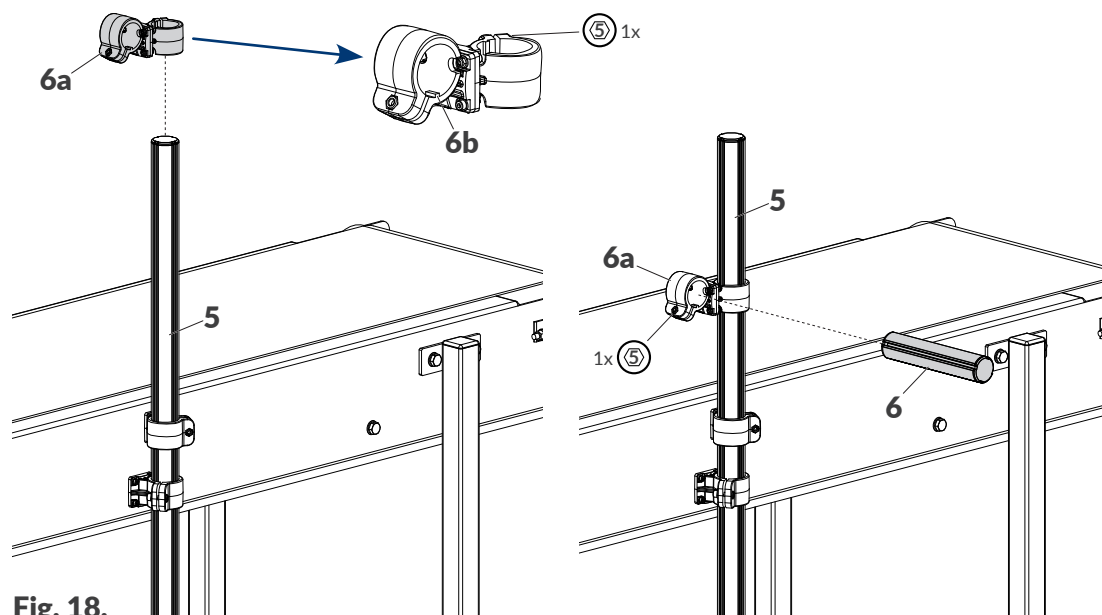

Fig. 18.
4. Fasten articulated holder **6a** to printer support beam **5** (see **Fig. 18**). Use the #5 angle hex key to tighten the screw in holder **6a**, clamping the holder to printer support beam **5**.
While installing the printer make sure that holder fins **6b** (see **Fig. 18**) are properly put into the vertical grooves on the support beams.